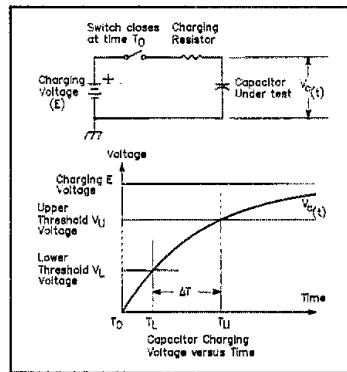

Fig 5—Capacitor charging curve.
The capacitance-measurement strategy depends on the fact that when a capacitor is charged from a known, fixed voltage through a known, fixed resistance, the time interval between two predetermined threshold levels along the charging curve is directly proportional to the value of the capacitor (see Fig 5).
The upper part of Fig 5 contains the circuit details for performing the time-interval measurement. The unknown capacitor must be discharged below the lower threshold voltage; Q3 and J-K flip-flop U6A; perform that discharge. R5 and R6 take care of the two known charging resistors for the two capacitance ranges and the output of U1, a LM78L05 voltage regulator, generates the fixed known voltage (E) needed for the measurement. By turning off Q3 via flip-flop U6A, the unknown input capacitor,  $C_x$ , is allowed to charge through either R5 or R6, depending on the level of the CM, Hi/Lo control line.